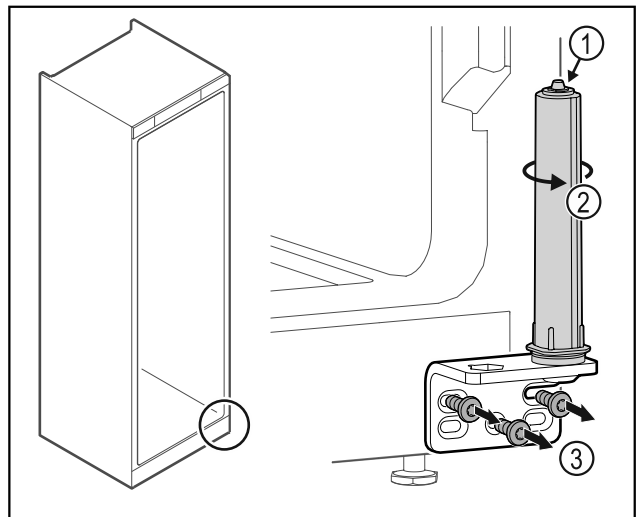

Fig. 25
- Do not disassemble the door closing system Fig. 25 (1).
- Turn the closing system Fig. 25 (2) until it clicks.
- Unscrew the hinge Fig. 25 (3).